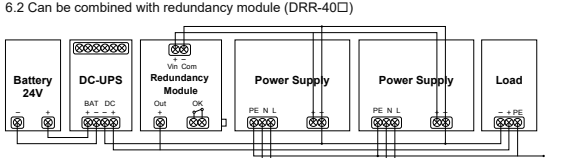

Figure 6
7. Typical Application Notes (Fig. 6)